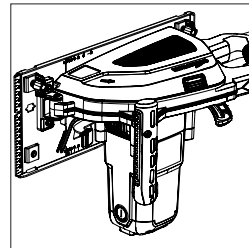

Fig. 2
**Note:** All machines can, with care, be rested on the flat end of the motor housing casing, (**Fig. 2**), easing access to the blade and fixings.